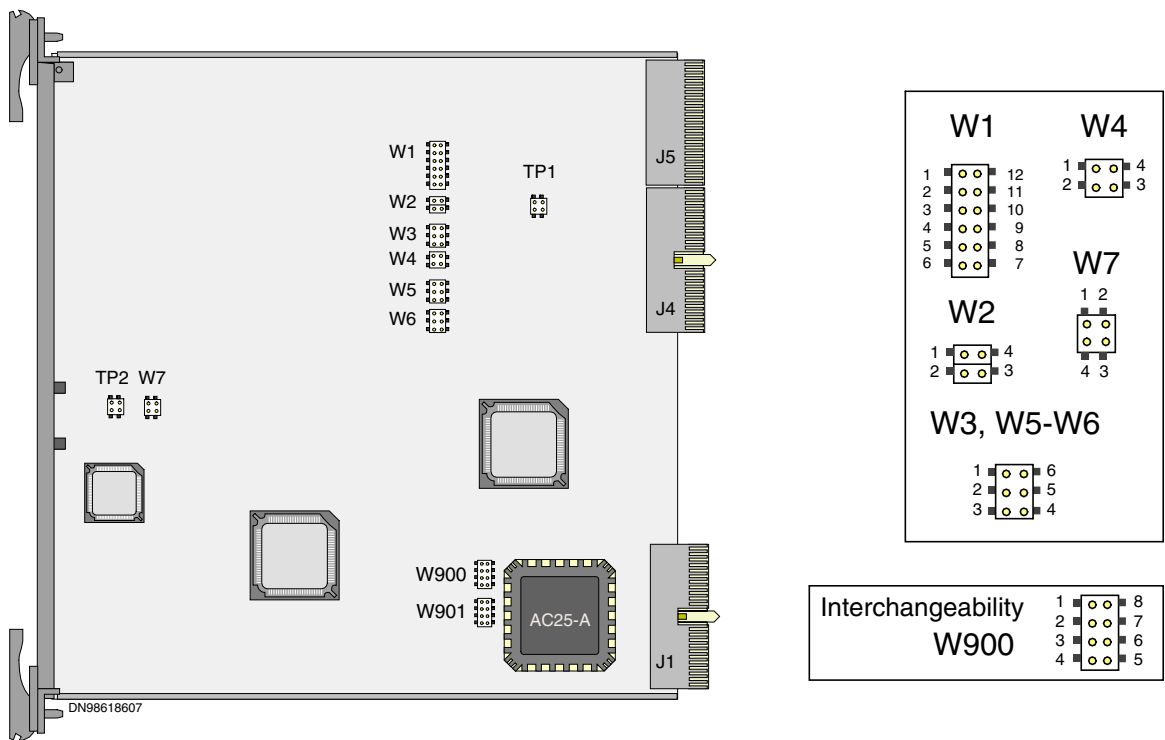

Figure 1. Jumpers and read-only memory circuits of the plug-in unit AC25-A.
- Figure 1. Jumpers and read-only memory circuits of the plug-in unit AC25-A. **15**